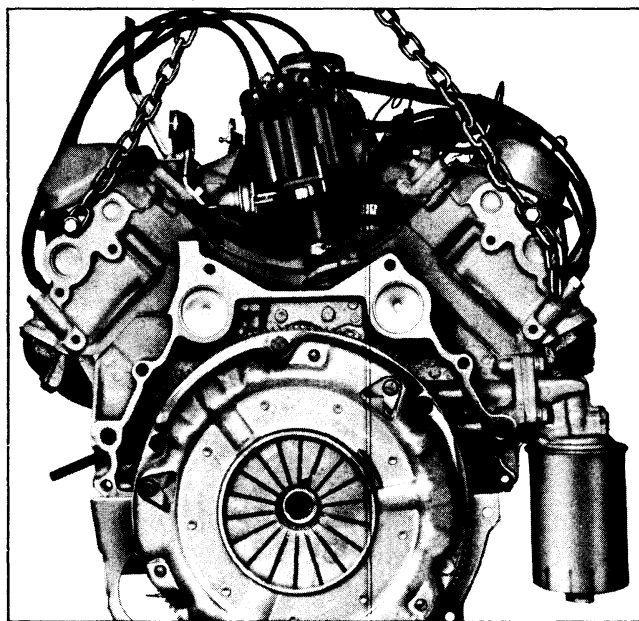

Fig. 6-21 Rear Engine Attaching Points for Removal
18. Thread $\frac{3}{8}$ " bolts through ends of short, strong chain and insert in top holes at rear of right and left cylinder heads. Loop heavy chain fall through short chain and connect end of chain fall to lift plate on timing chain cover, Fig. 6-21.